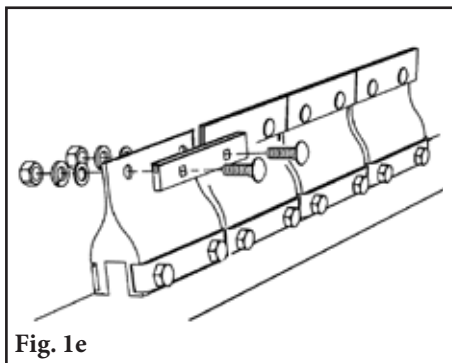

Fig. 1e
For structure mounting: In most applications the standard mounting brackets will have adequate room to fit on the structure with no cutting. Clamp the mounting bracket into position (use 150mm clamps). Move the clamp block to align the center of the block with a point 175mm (7") below the belt (Fig. 1e). To move the clamp blocks, if necessary, loosen the clamp block lock bolts and the adjusting bracket lock bolt and position. Tighten the adjusting bracket lock bolt. The bracket can now be bolted or welded in place. Locate and install bracket on the opposite side of belt in alignment with the first bracket. **NOTE:** The brackets must be aligned perpendicular to the belt.
- e. Remove the nuts, flat washers and lock washers from the tips and remove worn tips (Fig. 1e).